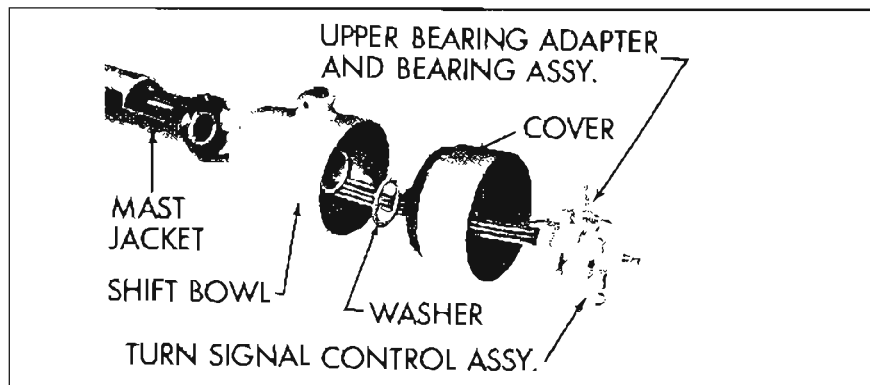

Figure 8-72—Disassembly of Upper Portion of Mast Jacket
9. Twist steering column cover in a counterclockwise direction and lift out steering column cover, turn signal control assembly, steering shaft upper bearing and adapter, washer, and shift bowl. See Figure 8-72.